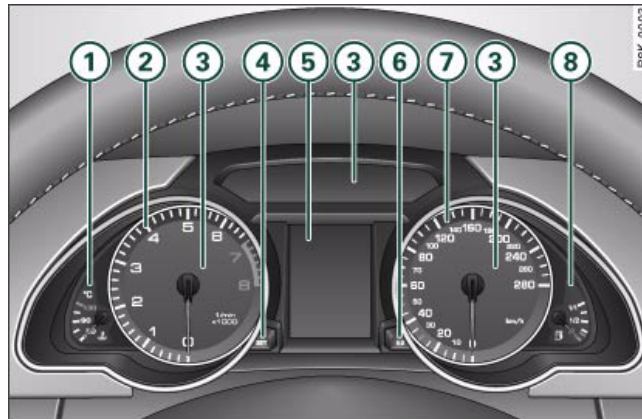

Fig. 2 Overview of instrument cluster
The coolant temperature gauge ① ⇒ fig. 2 only works when the ignition is switched on. In order to avoid possible damage to the engine, please read the following notes for the different temperature ranges.
Never allow the rev counter needle  ⇒ *page 11*, fig. 2 to go into the red zone on the dial for more than a very brief period: there is a risk of damaging the engine. The start of the red zone on the dial is different for some engine versions.